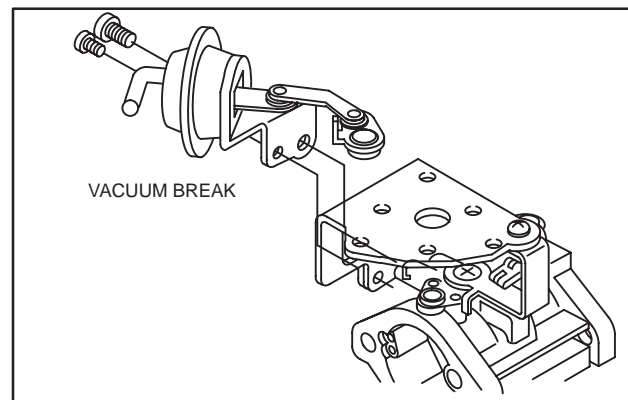

Fig. 34 – Removing Choke Vacuum Break
9. Remove two screws and vacuum choke break, Fig. 34.